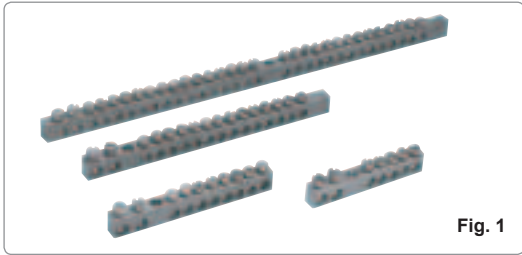

Fig. 1
- Models **NSYRBL** (Fig. 1) for installation in boxes with insulating rear or by means of insulators, not supplied.